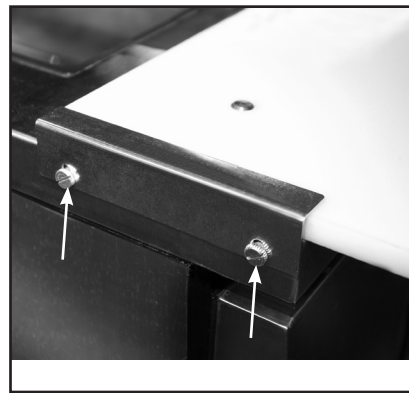

Figure 1.
- A. Remove thumbscrews from cutting board brackets. (See figure 1).